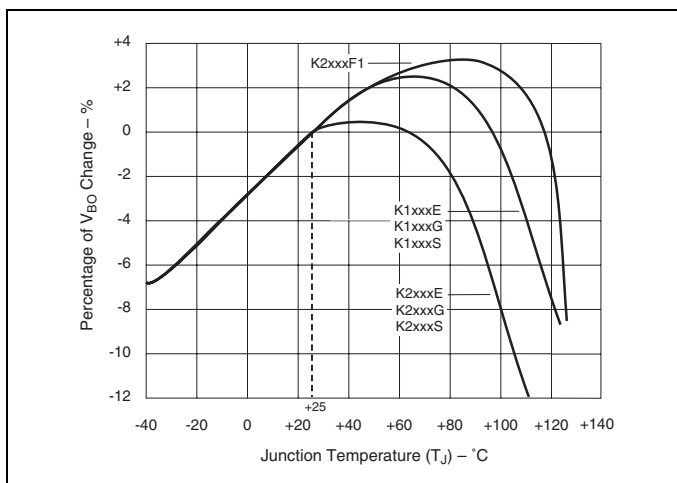

Figure E9.5 Normalized  $V_{BO}$  Change versus Junction Temperature
- See Figure E9.5 for  $V_{BO}$  change versus junction temperature.